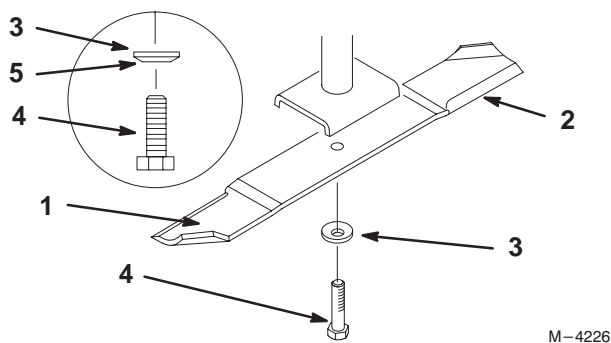

Figure 22
1. Hold the blade end using a rag or thickly-padded glove. Remove the blade bolt, spring disk and blade from the spindle shaft (Fig. 22).
1. Install the blade onto the spindle shaft (Fig. 22).
2. Install the spring disk and blade bolt (Fig. 22). The spring disk cone must be installed toward the bolt head. **Torque the blade bolt to 85–110 ft-lb (115–150 N•m).**